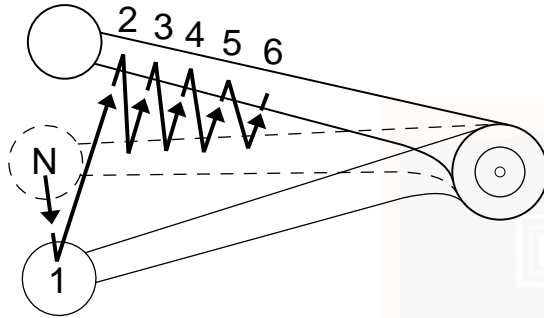

Figure 20. Upshift Pattern: Six Speed
3. See Figure 20. Lift the gear shift lever up to the end of its travel and release.